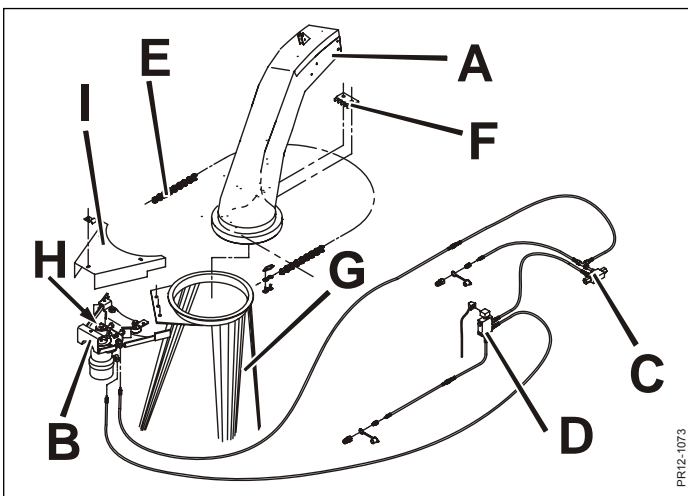

Fig. 3-10
- Fig. 3-10** Mount the swivel chute **A**. Grease the swivel ring and check that the delivery chute can turn freely.